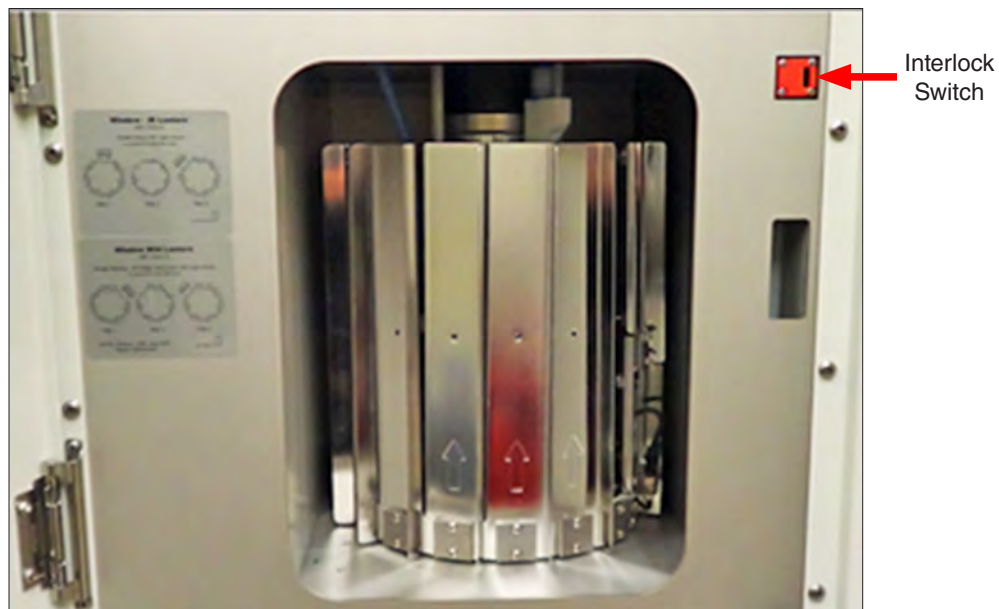

Figure 2.2b: Test chamber door opened to show interlock switch location.
- An interlock switch (Figure 2.2b) shuts off power to the lamp when the test chamber door is opened.